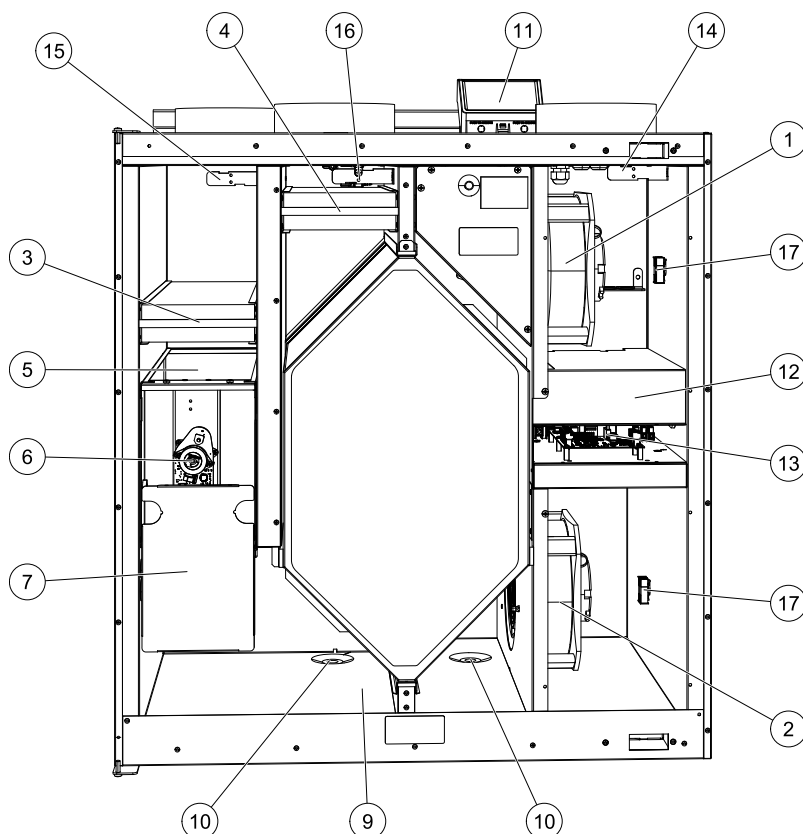

Fig. 9 Components
The built in bypass damper (pos. 5 figure 9) is involved in defrosting, cool recovery, and supply air temperature control of the unit. The damper motor is controlled by an analogue 0–10 V signal.
Depending on the relative humidity in the extract air, condensation may occur on the cold surfaces of the heat exchanger. The condensate water is gathered in the condensation tray (pos. 9 figure 9) in the bottom of the unit and is led out through the drainage (pos. 10 figure 9) which are situated on each side of the heat exchanger. The drainage outlets are size ½" with outer threaded tube connections (chapter 5.3.1).
- Supply air sensor (pos. 14 figure 9)
- Outdoor air sensor (pos. 15 figure 9)
- Extract air sensor (pos. 16 figure 9).